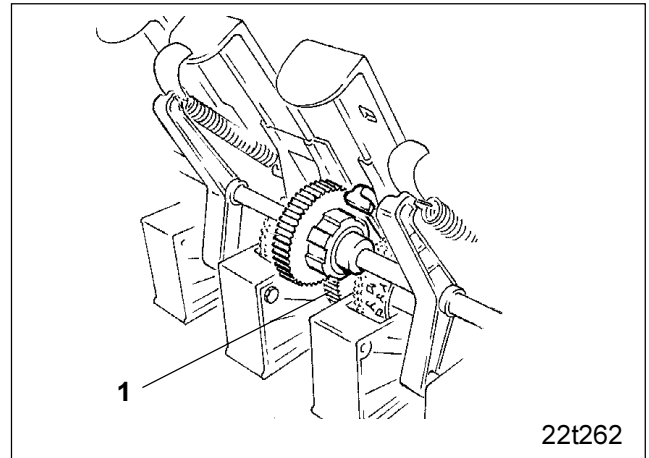

Fig. 10.24
- mount the supplied chain wheel (Fig. 10.24/1) on the bean seed metering shaft before attaching the bean seed metering wheel.